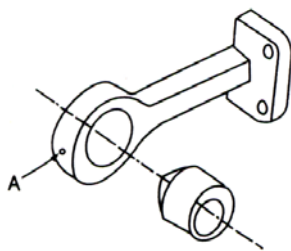

Fig3-2
2. replacement of wire guide (as Fig3-2)